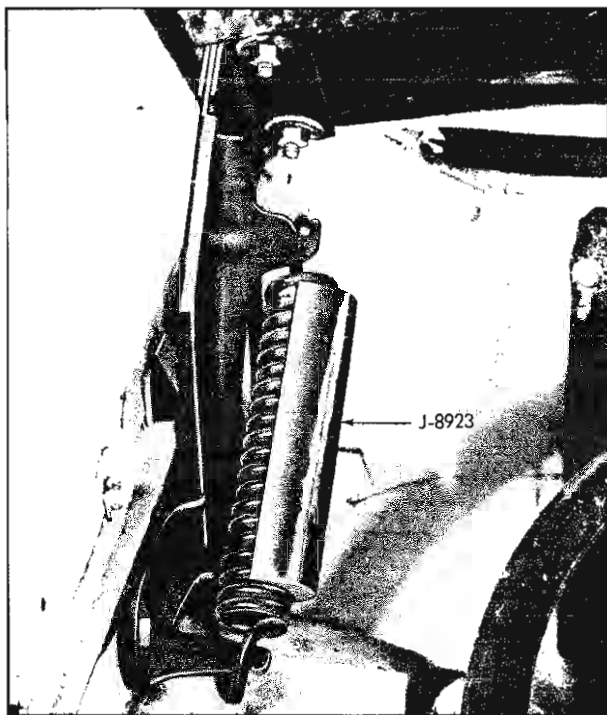

Fig. 10-11 Hood Spring Tool J-8923
2. Insert tool J-8923 on spring (Fig. 10-11).